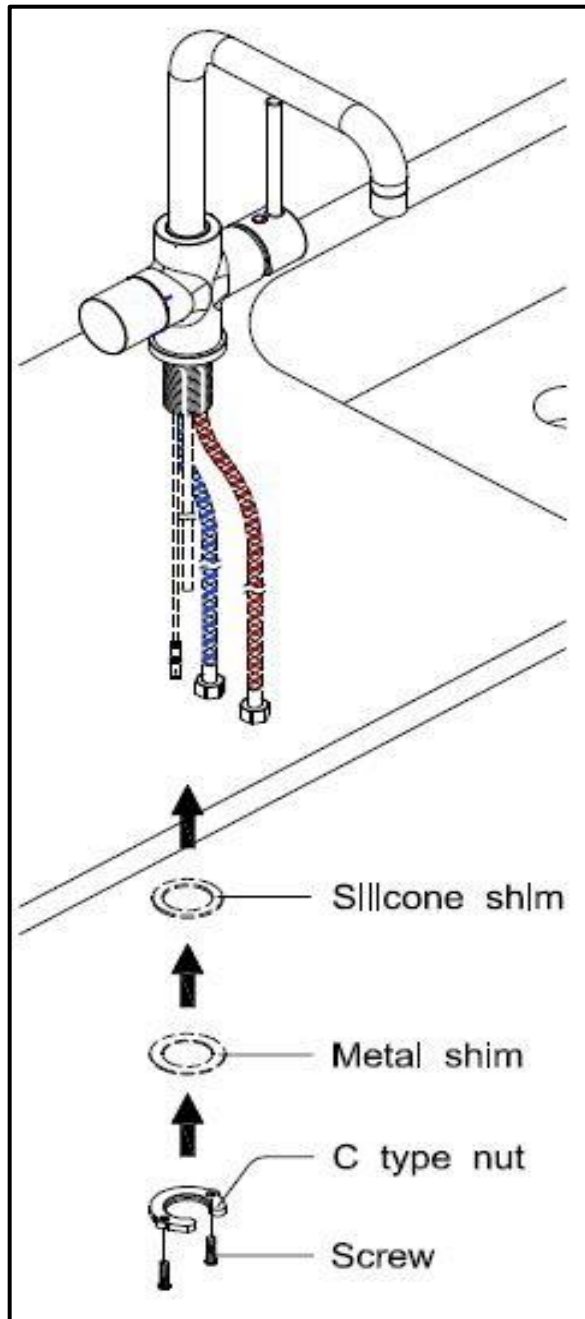

Figure 14: *ST2 Tap Plumbing (view 2)*
4. Follow the sequence as marked in Figure 14: *ST2 Tap Plumbing (view 2)*. Install silicone shim, metal shim and C-type nut. Tighten the screws.